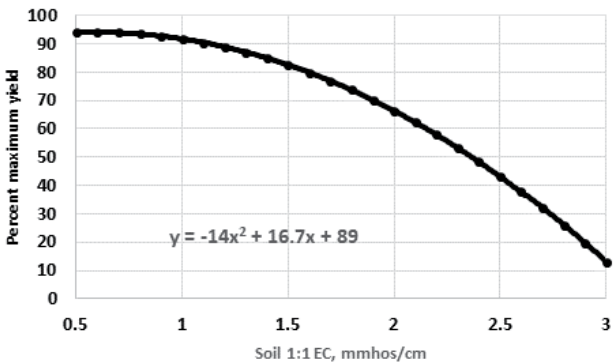

Figure 4. Relationship of salinity (1:1 soil: water EC) and relative soybean yield.
Soybean is one of the most sensitive crops to salt-affected soils. The relationship of relative yield and soil salt levels measured by electrical conductivity (EC) in North Dakota research is shown in Figure 4. Relative tolerance of soybean cultivars to soil EC is roughly related to cultivar IDC tolerance.